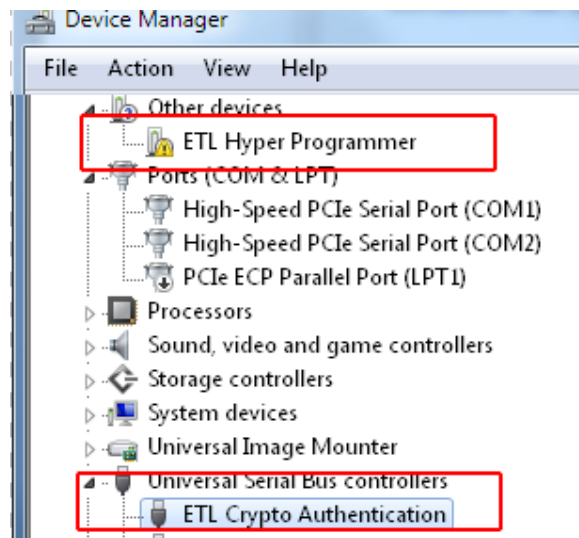

Figure 10. The "ETL Crypto Authentication" device successful installation
- One driver was installed successfully (Figure 10). Install another driver for the "ETL Hyper Programmer" in the same way.